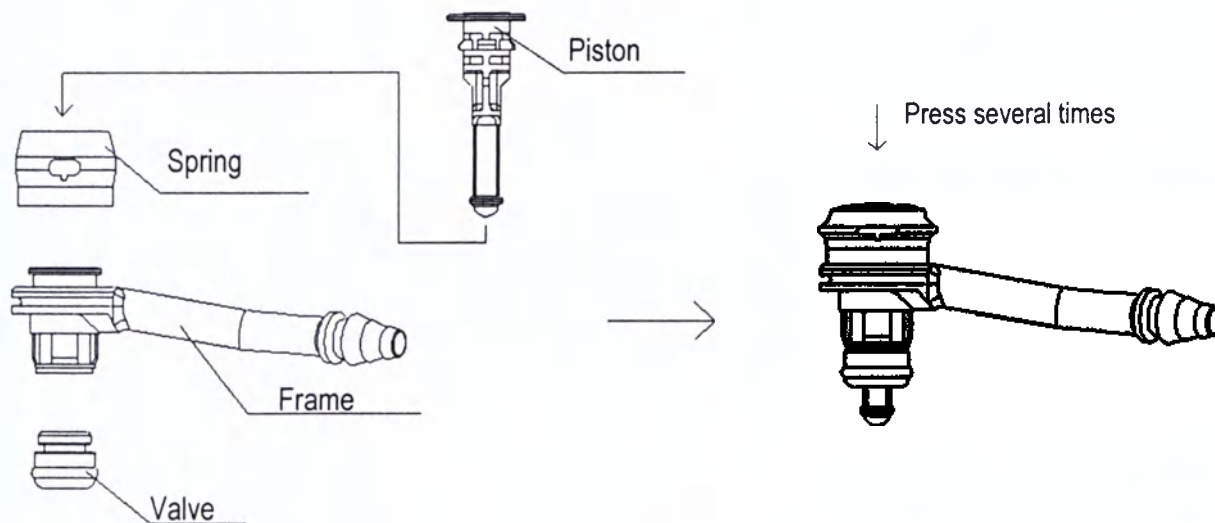

Figure 6. Assembling of the exhaust valve
- Insert the piston into the elements according to figure 6 and press several times.
5.2) Check-out after assembling (Figure 6)